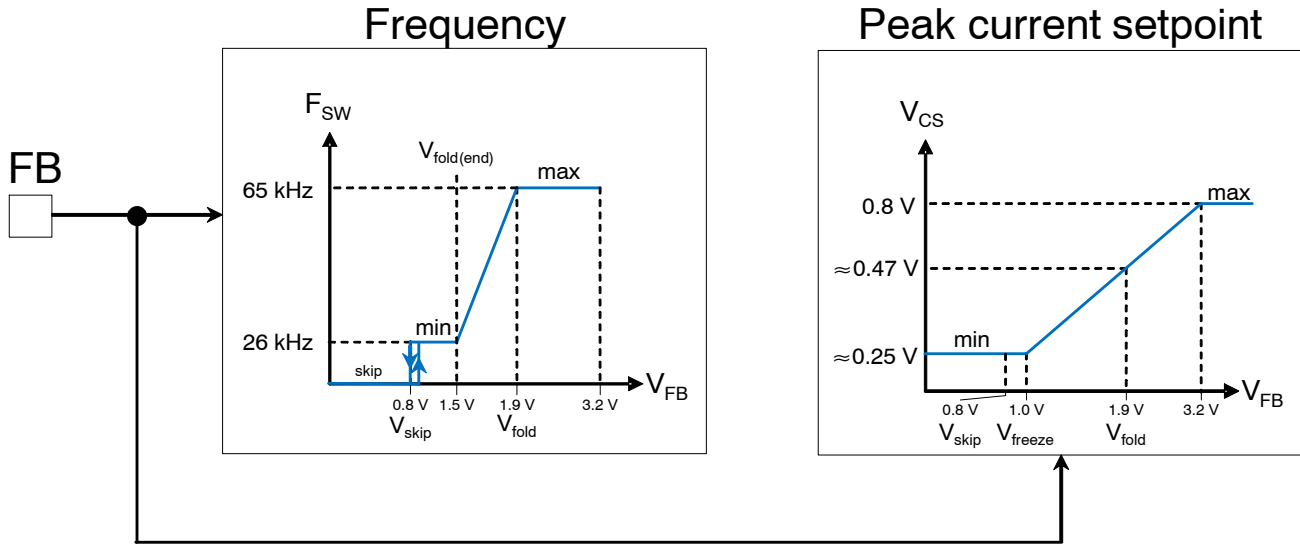

Figure 42. By Observing the Voltage on the Feedback Pin, the Controller Reduces its Switching Frequency for an Improved Performance at Light Load
1.5 V, the frequency is fixed and cannot go further down. The peak current setpoint is free to follow the feedback voltage from 3.2 V (full power) down to 1 V. At 1 V, as both frequency and peak current are frozen (250 mV or  $\approx 31\%$  of the maximum 0.8-V setpoint) the only way to further reduce the transmitted power is to enter skip cycle. This is what happens when the feedback voltage drops below 0.8 V typically. Figure 42 depicts the adopted scheme for the part.